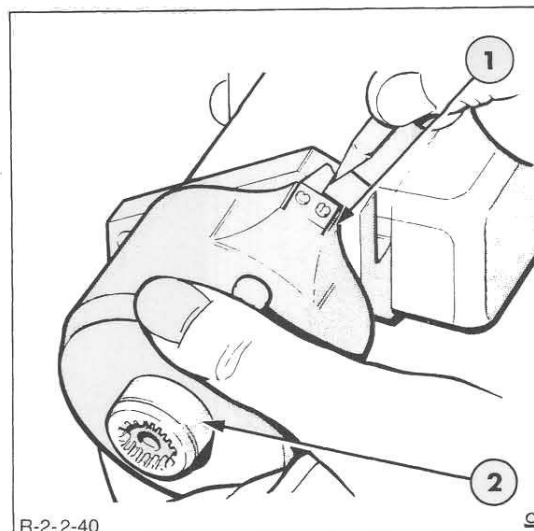

Figure 44
- (v) With the pump held in this position a line should be scribed on the pump flange along the guide on the gauge, Figure 44.